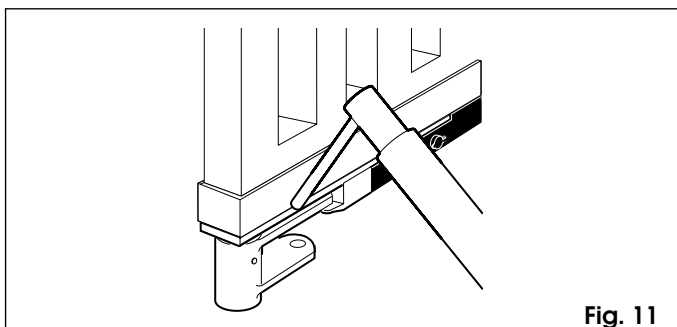

Fig. 11
- Carefully weld the guide bracket to the support bracket (fig. 11).